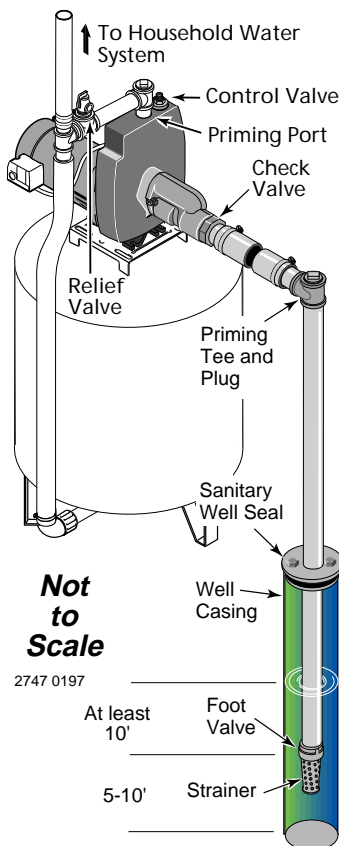

Figure 5: Cased Well Installation
CASED WELL INSTALLATION, 2" OR LARGER CASING (Figure 5)
- Step 3. Assemble the foot valve, strainer, and well pipe (see Figure 5). Make sure that the foot valve works freely.
- Step 5. Install a priming tee, priming plug, and suction pipe to the pump (see Figure 5). Connect the pipe from the well to the pump suction port, using the fewest possible fittings – especially elbows – as fittings increase friction in the pipe. The suction pipe should be at least as large as the suction port on the pump. Use teflon tape or a teflon-based pipe joint compound on threaded pipe joints. Support the pipe so that there are no dips or sags in the pipe, so it doesn't